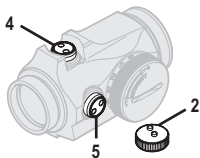

Fig. 3 Adjustment cap
- The Adjustment Cap (2) or the Tool (13A) must be used to turn the Adjustment screws. Place the knobs on the Adjustment cap (2) into the recesses on the Adjustment screws (4) (5). See Fig. 3.